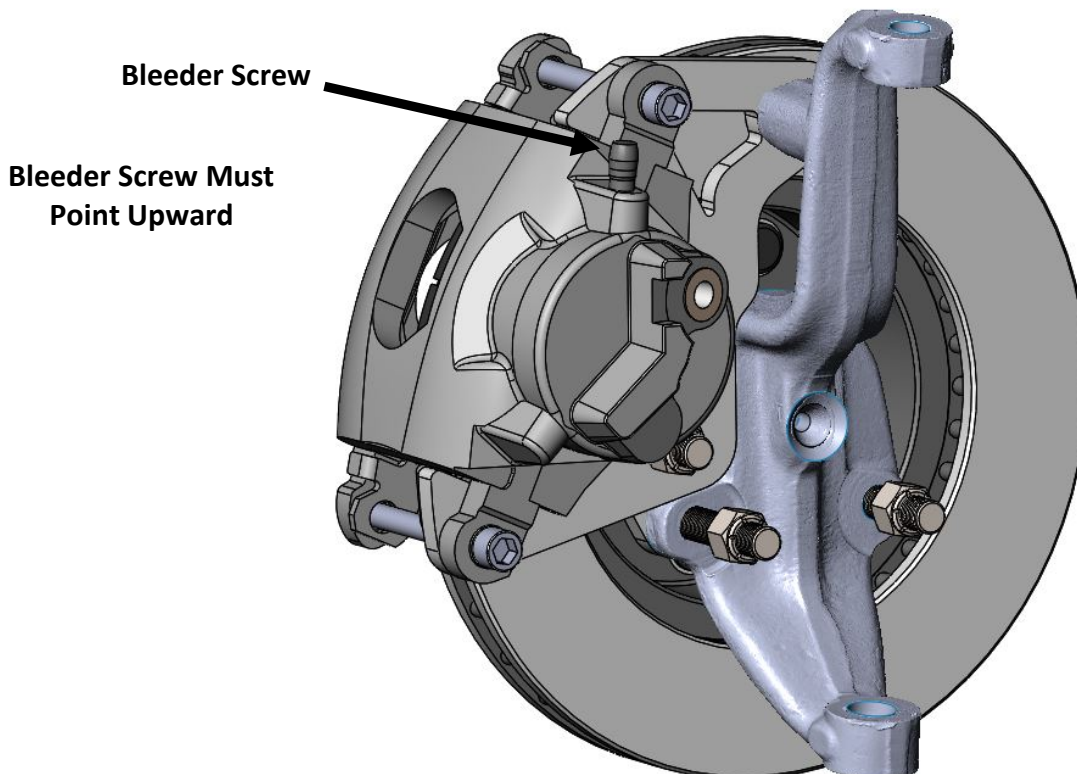

Figure 6 - Caliper Installed (Driver Side Shown)
9. Mount the caliper to the caliper mounting bracket. With the pads installed in the caliper, slide the caliper over the rotor and line up the mounting ears of the caliper with the holes in the caliper mounting bracket. Insert the two caliper bolts through the mounting ears and tighten. Torque the bolts to 35 lbs/ft. **NOTE:** Make sure the bleeder screws are pointing up as shown in Figure 6 below.